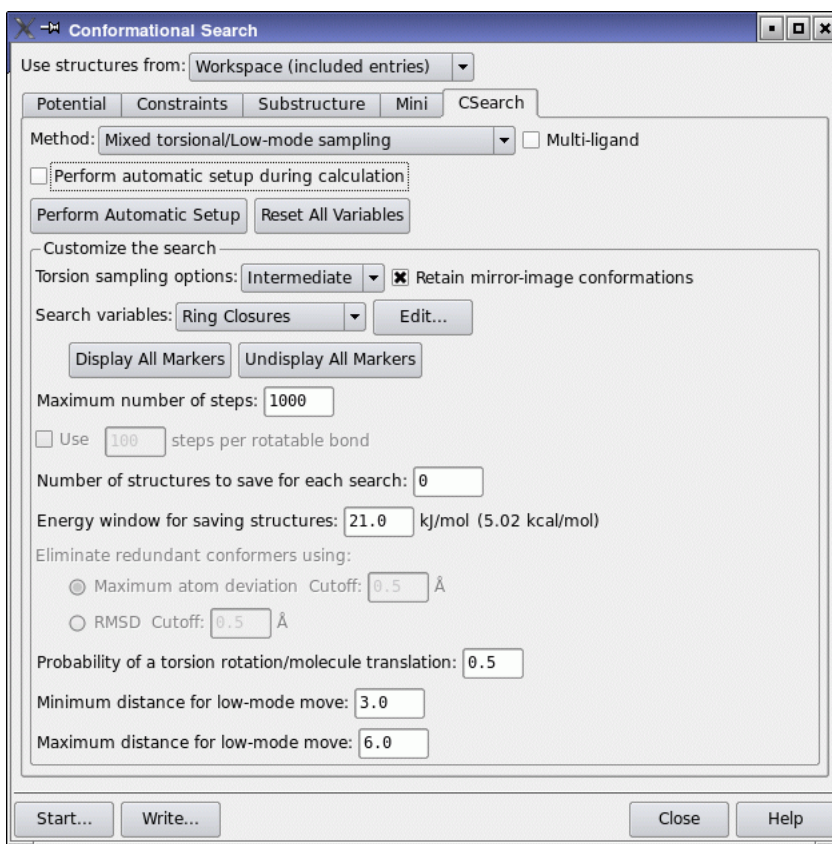

Figure 4.1. The Conformational Search panel showing the CSearch tab.
3. Choose Workspace (included entries) from the Use structures from option menu (see Figure 4.1 on page 42).